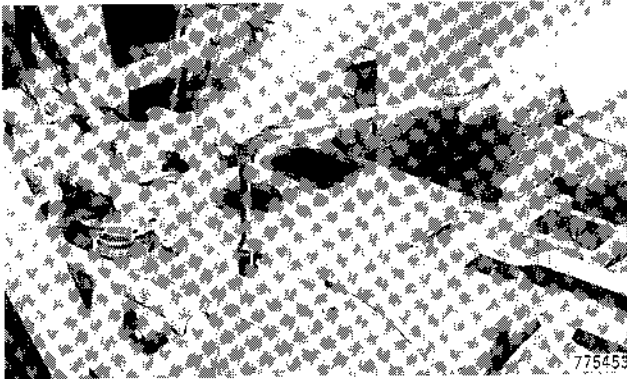

Figure 36
38. Remove the cap screws from the transmission cover, Figure 36.